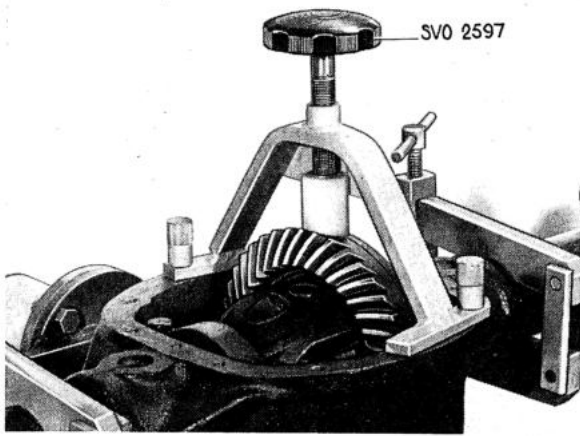

Fig. 4-161. Brake tool for differential
2. Fit on brake tool SVO 2597 as shown in Fig. 4-161. Apply marking blue to several teeth at three points on the crown wheel. This can serve as a check on the crown wheel for possible warping. Rotate the pinion 10—12 turns in both directions and check the mesh marking pattern. With correct tooth mesh, the mesh marking pattern should be horizontal in the middle of the tooth but somewhat nearer to the toe than the heel. The patterns on the coast side and drive side should coincide too far towards the toe on the coast side, see not coincide, the pinion location must be adjusted